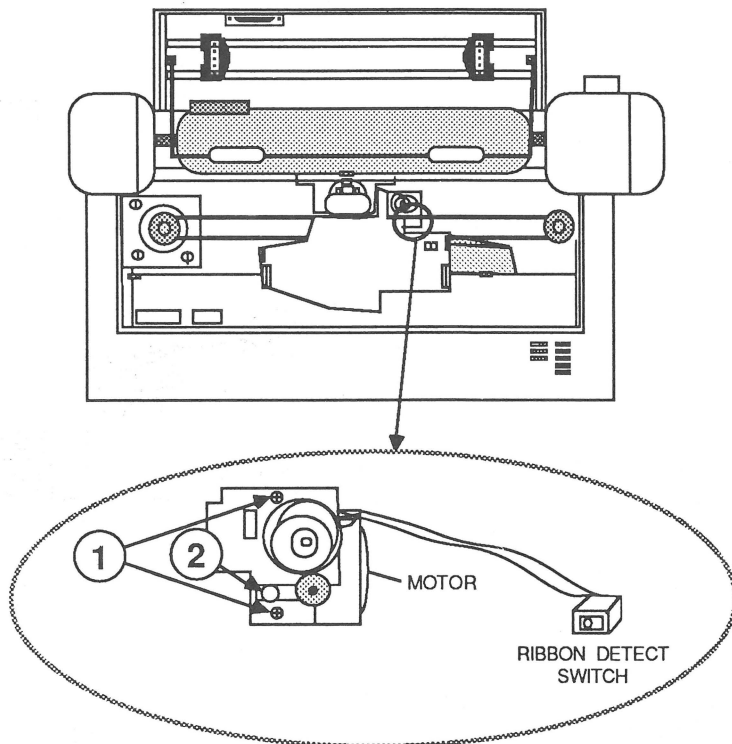

FIGURE 13
2. Remove the two screws that hold the motor in place (Figure 13, #1).
3. Position the jeweler's flathead screwdriver behind the small black plastic extension as shown in Figure 13, #2. Gently pry the motor out. *Note the position of the connector and the wires on the ribbon motor assembly.*
1. Slide the ribbon motor into position (Figure 13).
2. Replace the two screws that hold the motor in place (Figure 13, #1).